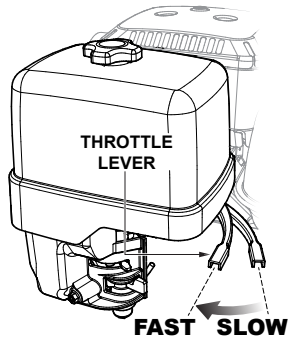

Figure 27. Throttle Lever (Idle)
1. Place the throttle lever (Figure 27) in the slow (idle) position, and let the engine idle 3~5 minutes.